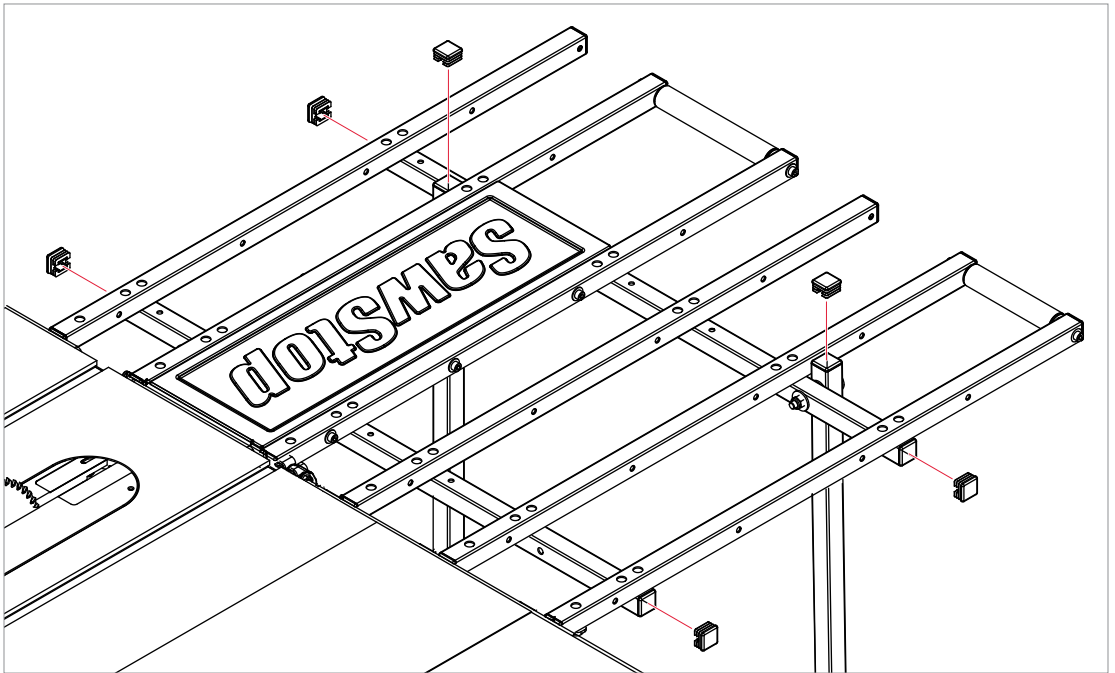

Fig. 52
- 21** Press a tube end cap into the top of both support legs and into the outer ends of the four table support tubes (see Fig. 52).